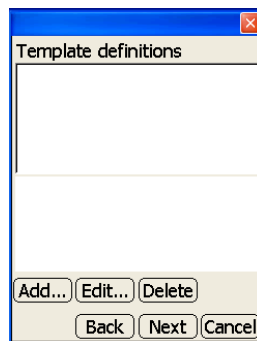

Figure 2-19. Template Definitions
10. On the *Template definitions* dialog box, press **Add** to create a template definition, or press **Edit** to change a template definition (Figure 2-19).